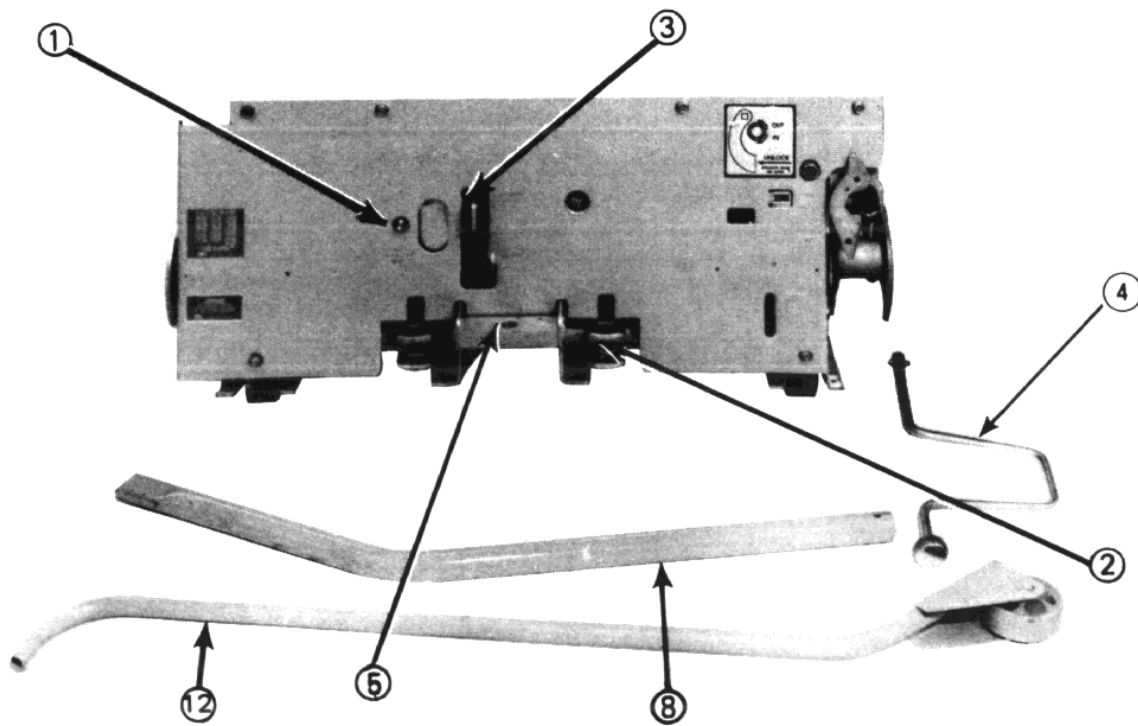

Fig. 3 — Front Circuit Breaker Panel & Accessories
Installing Circuit Breaker into Compartment (See Figs. 3&4)
Turn motor disconnect switch (1, Fig. 3) to "OFF" position.
For installing the circuit breaker into the lower compartment, the fifth wheel is used to position the breaker so that it is lined up with the switchgear. Engage the fifth wheel (12, Fig. 3)
with hole (5, Fig. 3). The lift device is required to lift and position the breaker for installation into the upper compartment. Guide and push circuit breaker into compartment until stopped. Again engage racking crank and rotate clockwise until racking mechanism automatically stops at "DISCONNECT" position. (Breaker is now held captive in compartment.)
With the circuit breaker racked to "TEST" position, it should be checked for proper operation by operating all possible means of opening and closing, this includes control switches, relays, etc. Turn motor disconnect switch (1, Fig. 3) to "ON" position to charge the closing springs, and operate the breaker as required.
2. Fully closed breaker (See Fig. 3). Charge the closing springs and turn the motor switch (1) off. Close the breaker. Engage manual charge handle (8) with charging lever (3). During the initial portion of the downward stroke of the handle check to see which direction the closing spring guides (2) move. If this spring guides start to move out then the breaker did fully close. If the spring guide begins to move in and with additional pumping moves in until the mechanism can be heard to "snap in", then the breaker did not fully close originally. Excess contact pressure or friction can cause this condition and if it cannot be relieved then the factory should be consulted.